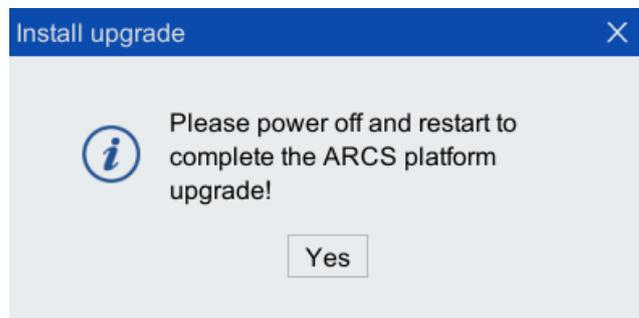

Figure 8-53 "Please power off and restart to complete the ARCS platform upgrade!" prompt box
Step3. After the upgrade is completed, the "Please power off and restart to complete the ARCS platform upgrade!" prompt box as shown in Figure 8-53 pops up. After clicking the <OK> button, power off and restart to complete the platform update.